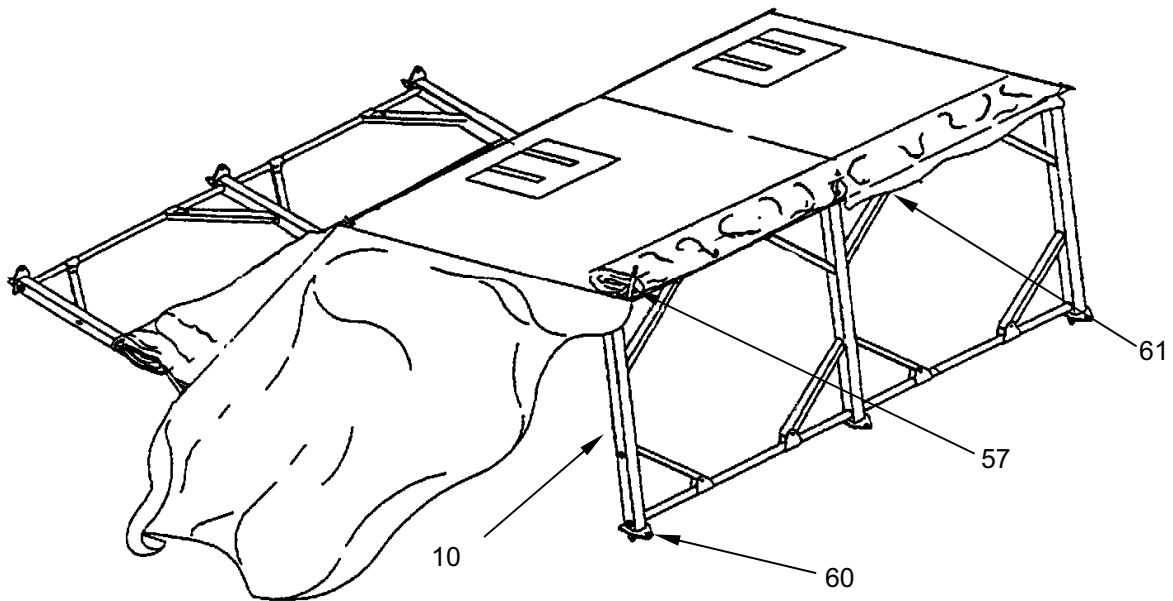

Figure 29. Raising the Frame to Partially-Erect Position.
7. Lift frame straight up to shoulder height; drag side arch assembly (**Figure 29, Item 10**) inward. Place weight of the frame on side arch assembly foot (**Figure 29, Item 60**).
8. Align holes of eave gusset (**Figure 29, Item 57**) and side arch assembly (**Figure 29, Item 10**) and install quick release pin.
9. Identify purlin flap (**Figure 29, Item 61**) on interior of window/roof section.
10. Secure purlin flap (**Figure 29, Item 61**) to frame at eave purlin using hook and pile fasteners.